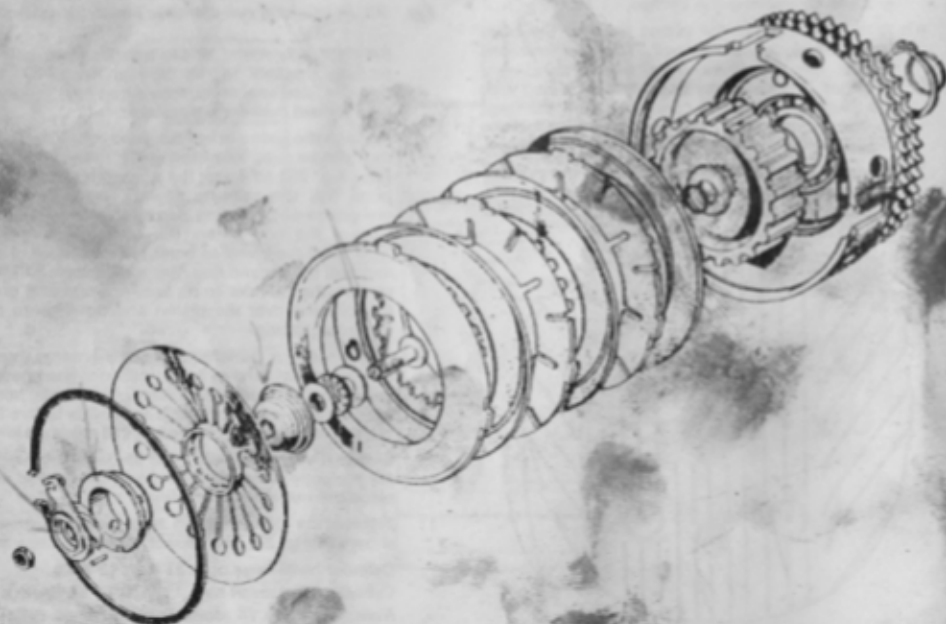

Fig. 29 Clutch order of assembly.
- 11 Assemble the clutch plates as in Fig. 29 with a sintered bronze friction plate first in the housing followed by a plain steel plate alternately. The plain steel plate is outermost with the chamfer outboard.